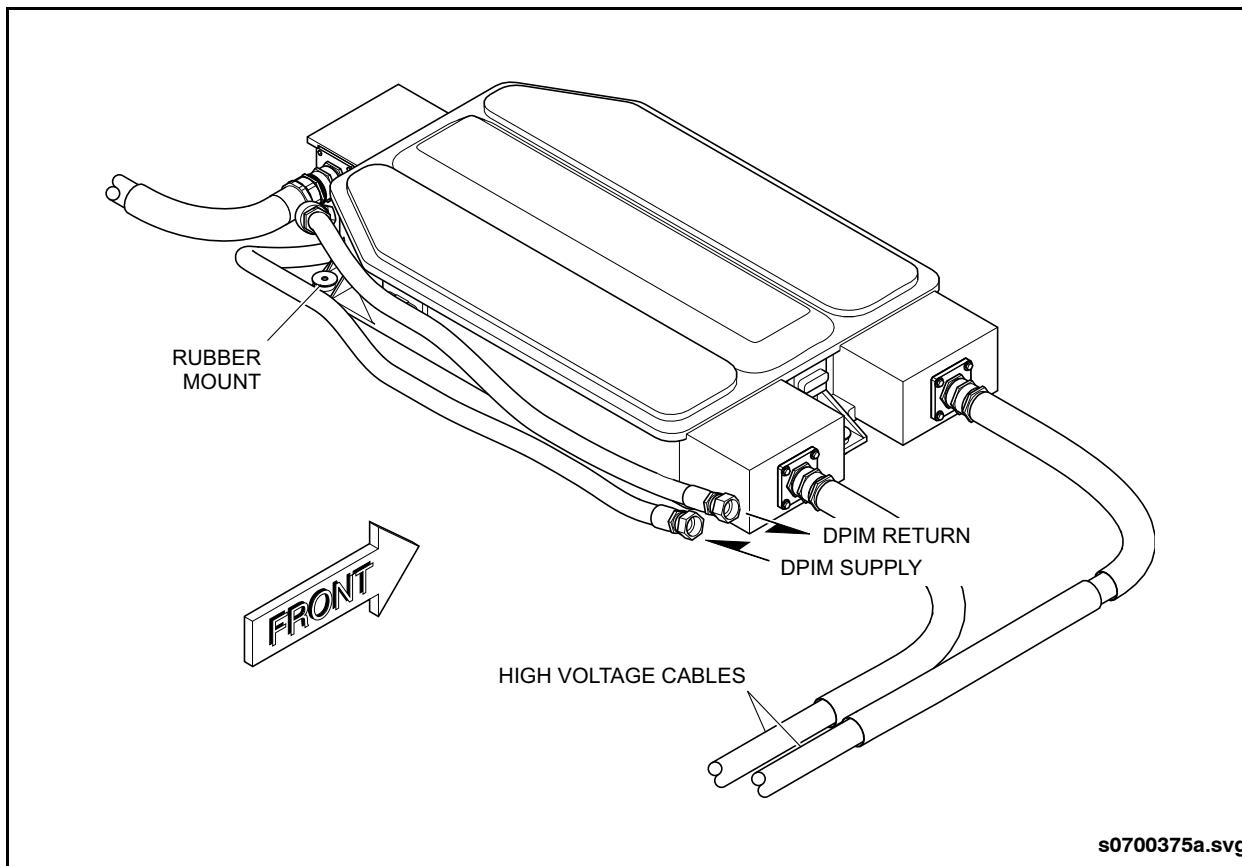

Fig. PM-28: Dual Power Inverter Module (DPIM)
- Inspect the oil supply and return hoses for leakage. Tighten hose connections as required. Refer to Fig. PM-28: "Dual Power Inverter Module (DPIM)" on page 61